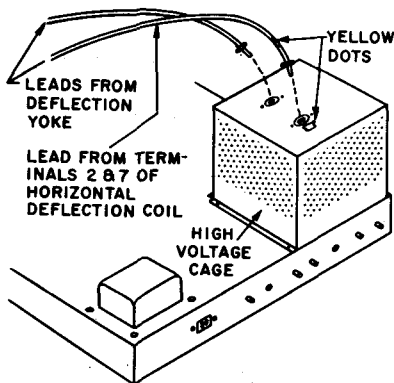

Fig. 68 — Emerson
**Proper polarity of plugs in h-v cage (see Fig. 68).**